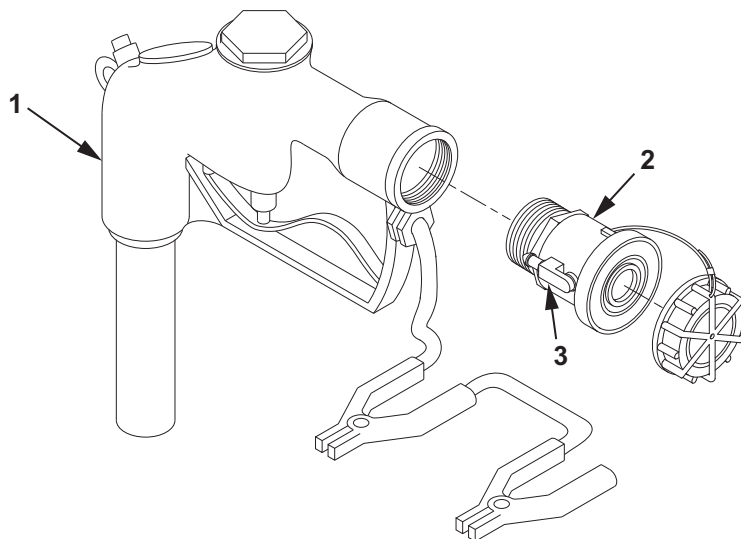

Figure 1. 1.5 In. Nozzle Disassembly.
1. Position arm assembly (Figure 1, Item 3) to the closed position.
2. Using an assistant to hold the nozzle, use a strap wrench to remove valved dry-break coupling assembly (Figure 1, Item 2) from nozzle (Figure 1, Item 1).